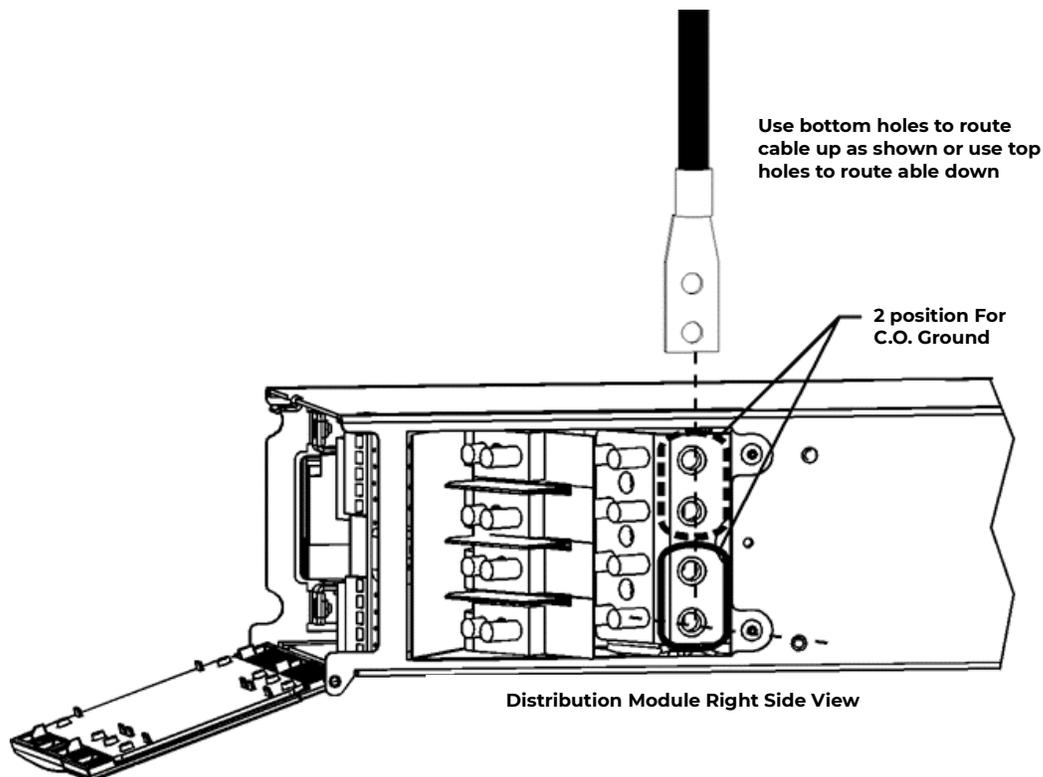

Figure 5-14a: C.O. Ground Conductor Connection
2.	Yes - Connect the conductor lug to the bottom 2 positions for C.O. ground. See Figure 5-14a and b. No - Continue.